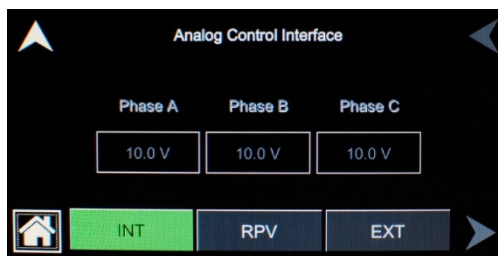

Figure 4-41. CONTROL INTERFACE Menu, ANALOG Sub-Menu
ANALOG	<p>Selects the reference that determines the output voltage waveform and amplitude; the default is INT. Refer to Figure 4-41. The options are as follows:</p> <p>INT: Selects programming of the output voltage waveform and amplitude by the internal controller reference.</p> <p>RPV: Selects programming of output voltage amplitude with an external analog interface signal, with the waveform being set by the internal controller reference. A Voltage field is provided for entry of DC input signal range: user-selectable maximum range value within 2.5 VDC to 10 VDC, for full-scale RMS of internally programmed output voltage waveform</p> <p>EXT: Selects programming of output voltage waveform and amplitude with an external analog interface signal. A Voltage field is provided for entry of AC or DC input signal range: 0V to user-selectable maximum range value within 2.5 V(PK) to 10 V(PK), corresponding to maximum range of 1.77 V(RMS) to 7.07 V(RMS), for zero to full-scale RMS output voltage; with AC waveform, from 16 Hz to 5 kHz (option dependent);</p> <p>PHASE: Selects the full-scale of the analog programming voltage for each output phase (Phase-A/B/C).</p>